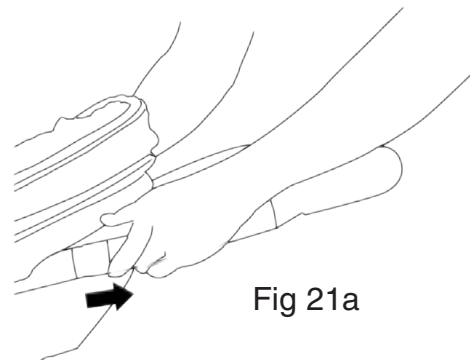

Fig 21a
- The stroller is folded by simultaneously pulling each trigger fold located on right and left handle above the canopy (Fig. 21a). When the fold latches are released, the handle will begin to rotate and lower toward the floor.